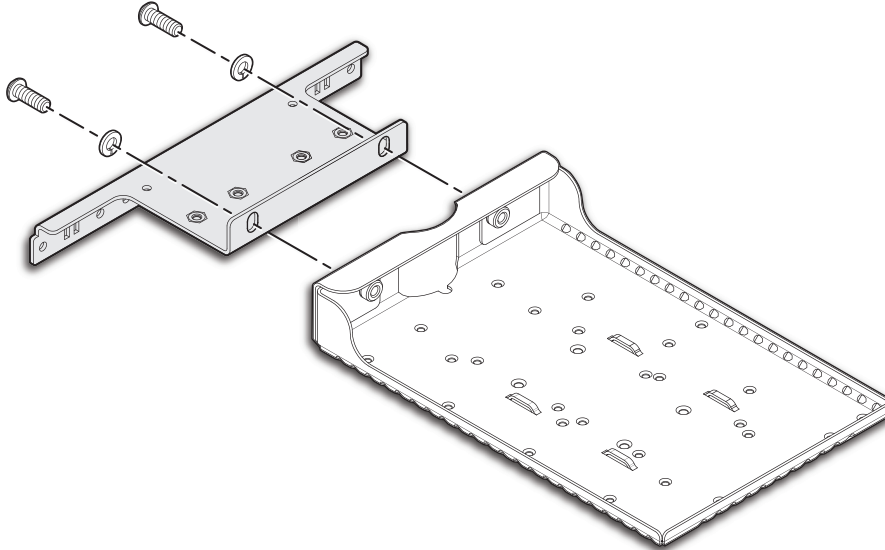

Figure 9. Attaching the PMK 155 to the Accessory Bracket
2. Attach the PMK 155 to the accessory bracket using the two screws and washers from the PMK kit (see figure 9).